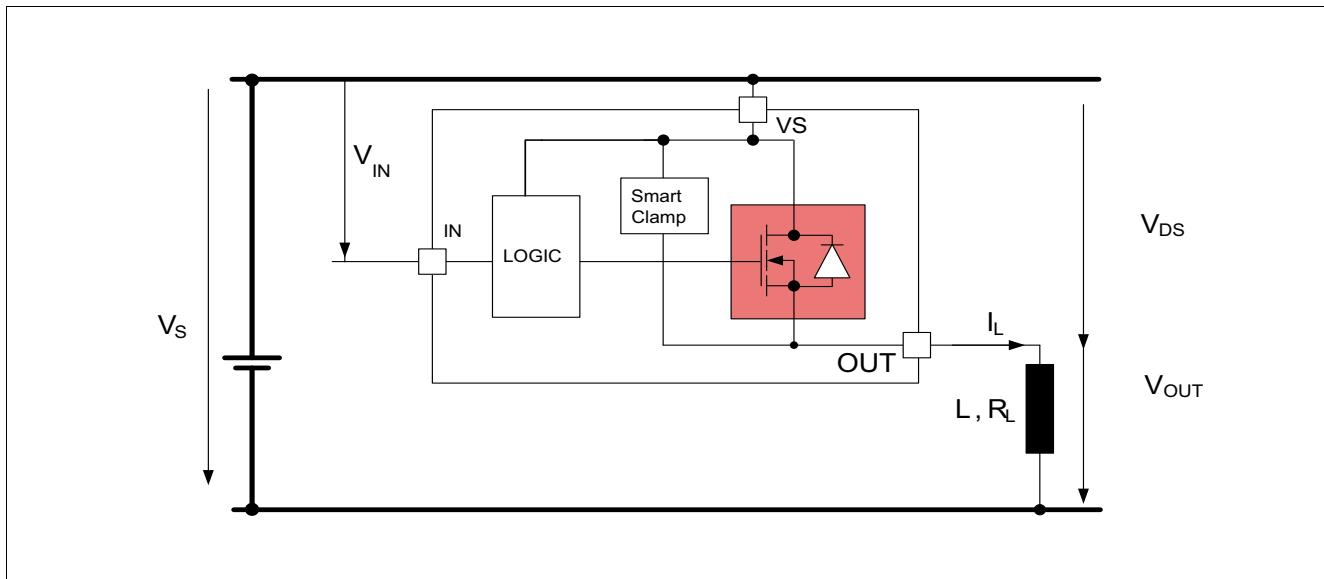
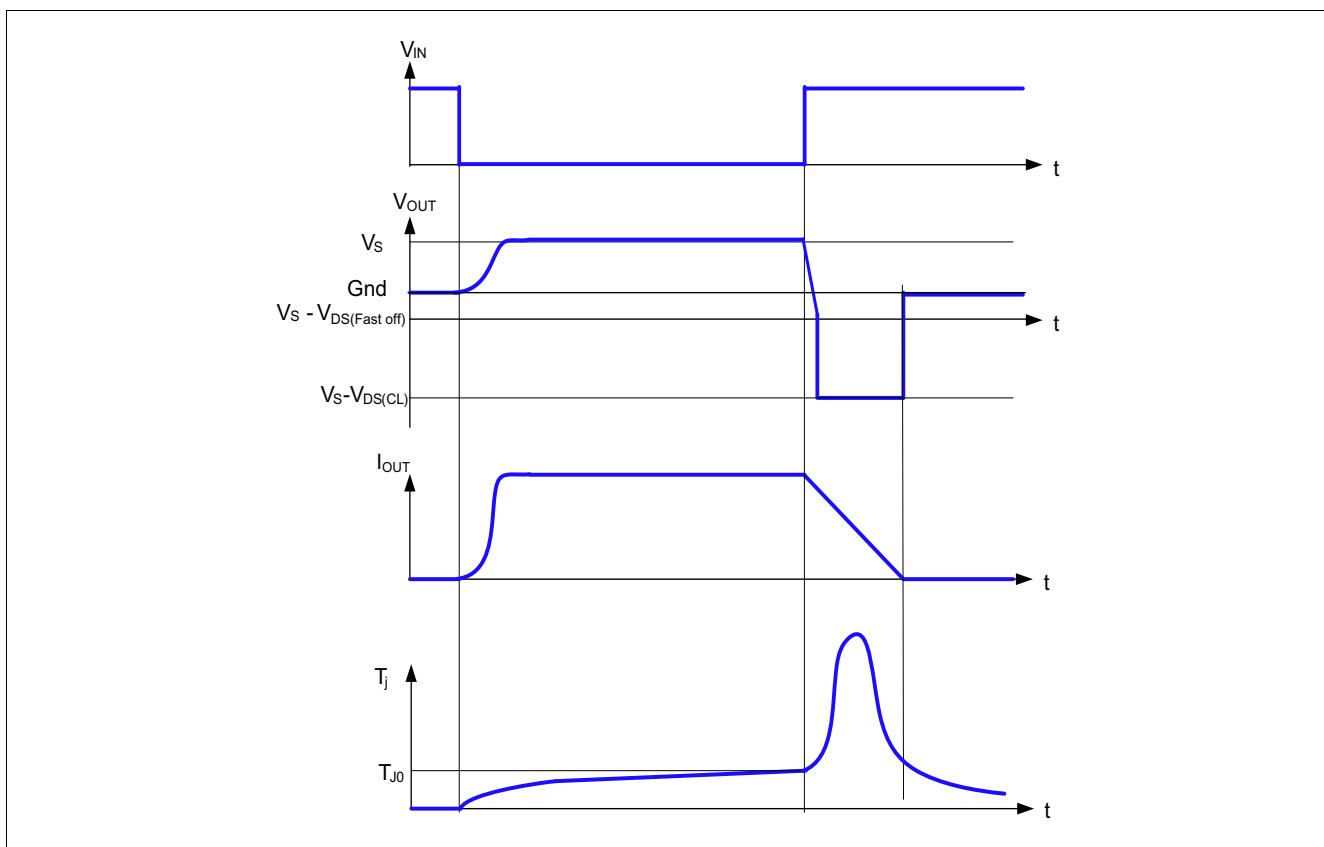

Figure 5-2 Output Clamp
Figure 5-3 Switching an Inductance
When switching OFF inductive loads with high side switches, the voltage V_{OUT} drops below ground potential, because the inductance intends to continue driving the current. To prevent the destruction of the device due to high voltages, there is a Infineon® SMART CLAMPING mechanism implemented that keeps negative output voltage to a certain level ($V_S - V_{DS(CL)}$). Please refer to Figure 5-2 and Figure 5-3 for details. Nevertheless, the maximum allowed load inductance remains limited.
- The device is commanded off by applying $V_{IN(L)}$ at the IN pin. During the switch OFF operation the OUT pins' voltage in respect to VS pin drops below $V_{ds(\text{fast off})}$. See Figure 5-3.